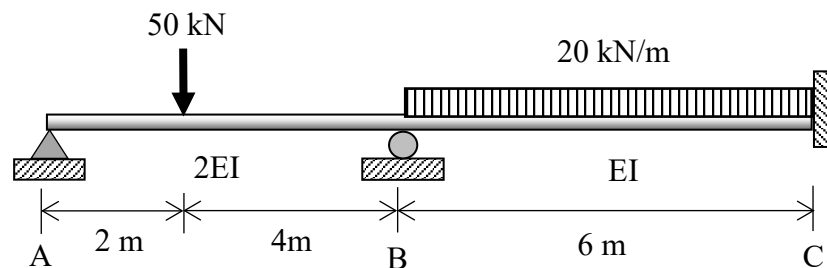

Figure B1(a) / Rajah B1(a)
- CLO1 (a) The statically indeterminate beam carries a point load and a uniformly distributed load as shown in Figure B1(a). By using the Slope Deflection Method, identify the Fixed End Moment values.
- CLO1 (b) Show the Slope Deflection Equations for each member in Figure B1(a).